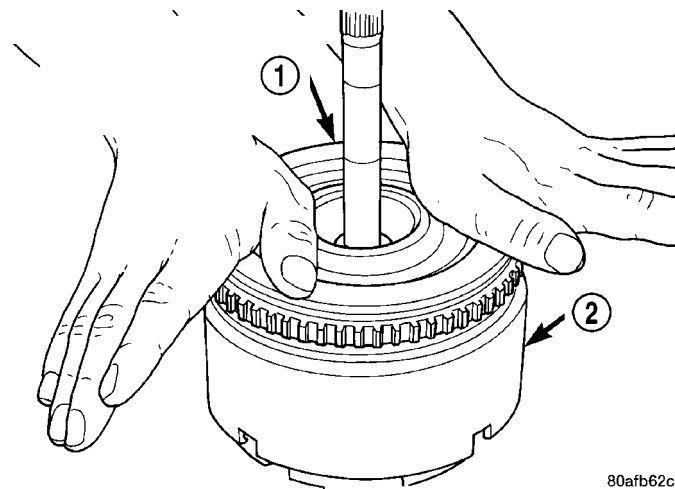

Fig. 218 Install Input Shaft Hub Assembly
(5) Install the input hub/shaft assy. to the OD/Reverse piston/clutch retainer assy. (Fig. 218).